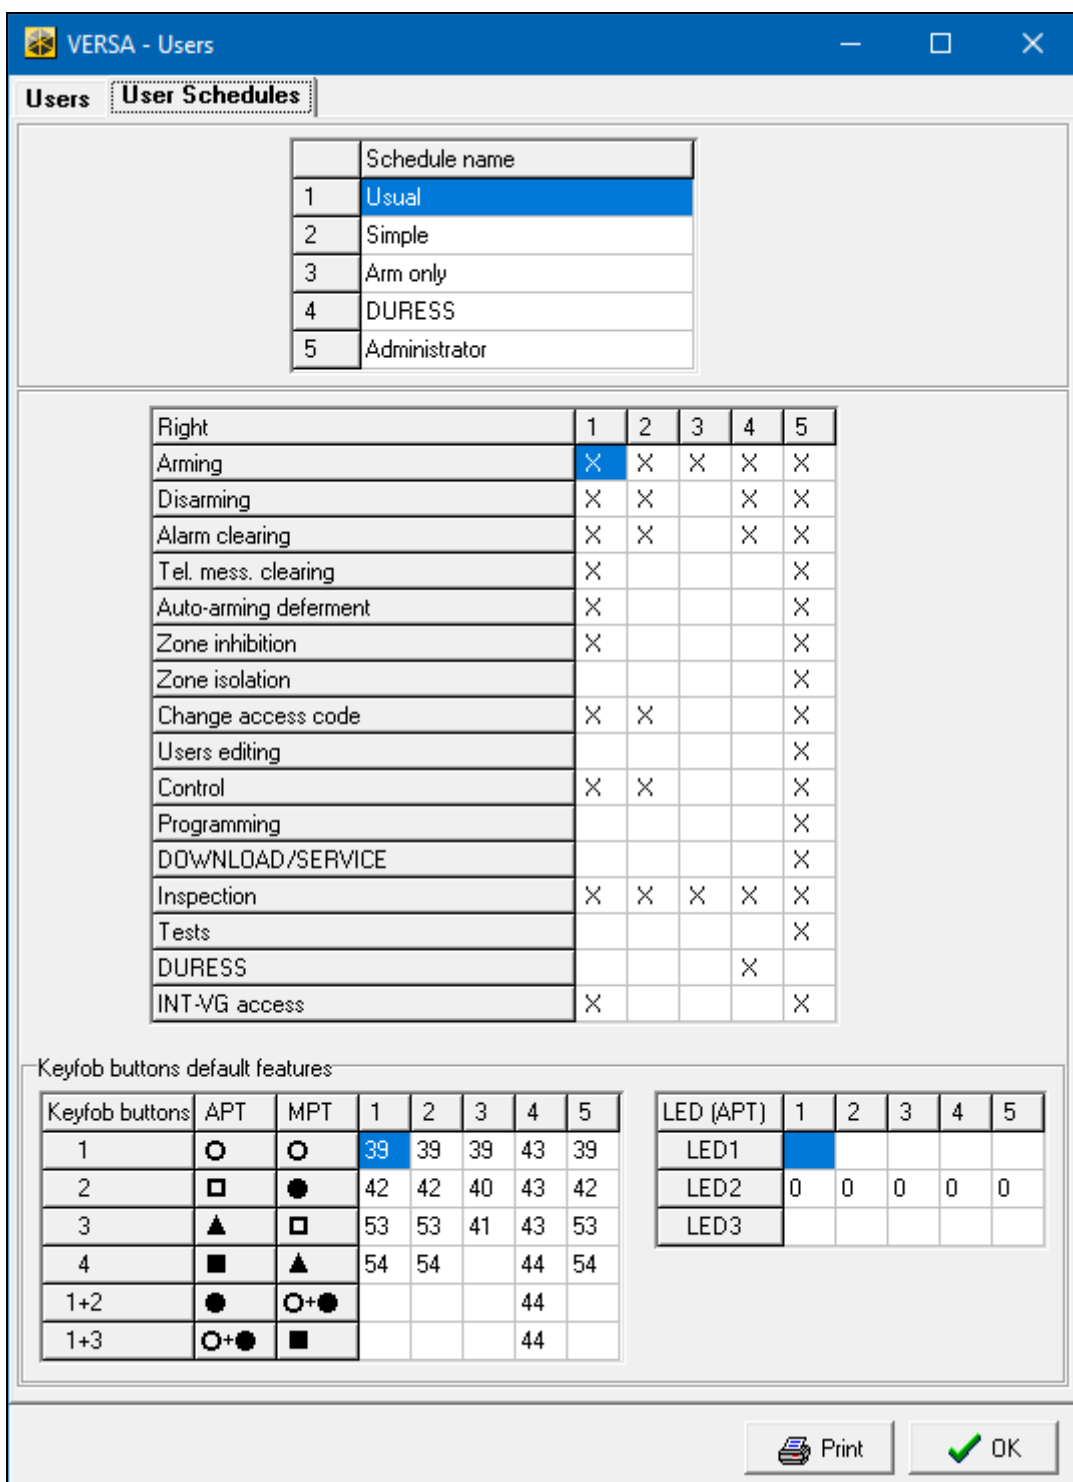

Fig. 31. DLOADX program: "User Schedules" tab in "VERSA – Users" window.
- DLOADX program: “VERSA – Users” window → “Users Schedules” tab (Fig. 31).